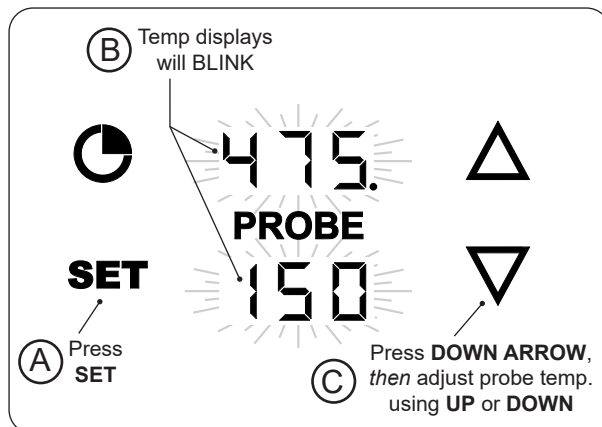

Fig. 40-2 Set probe temperature
1. With the thermometer/thermostat **on** and the meat probe plugged in, press the **SET** button once. The grilling and probe displays will blink. (While blinking, either area can be selected to enter their settings.) See Fig. 40-2, A and B.
2. Press the **DOWN ARROW** to select the probe settings, then you may use the up or down arrows to set the desired temp (Fig. 40-2, C).